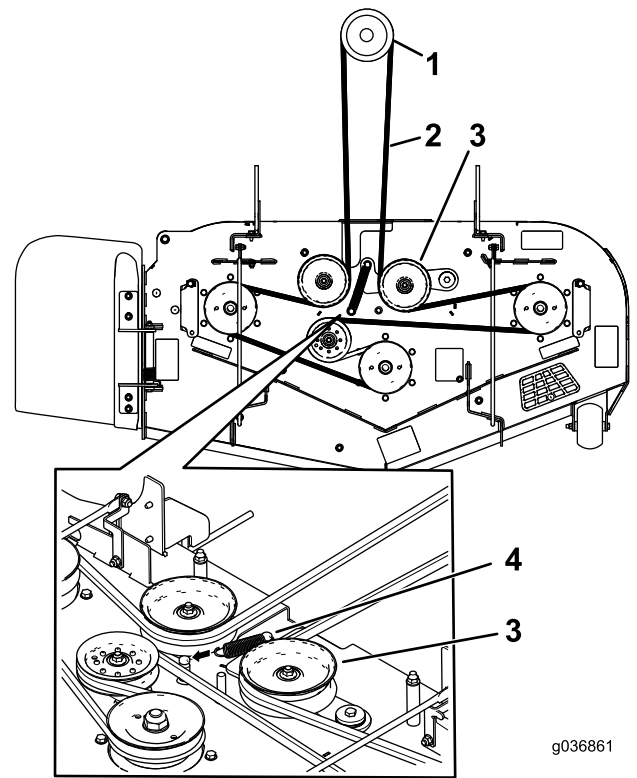

Figure 61
10. Install the new belt around the mower pulleys and the clutch pulley under the engine (Figure 61).
11. Install the idler spring (Figure 61).